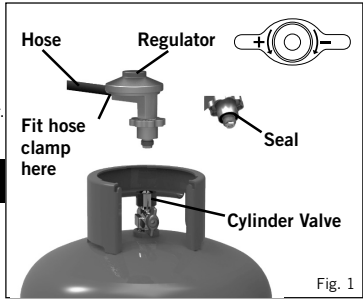

Fig. 1
- When changing a gas container close the cylinder valve and then the appliance Valve (see Figs. 1 and 2). Making sure the flame is extinguished, unscrew the regulator. Re-fit a full gas container following the same precautions as described above.